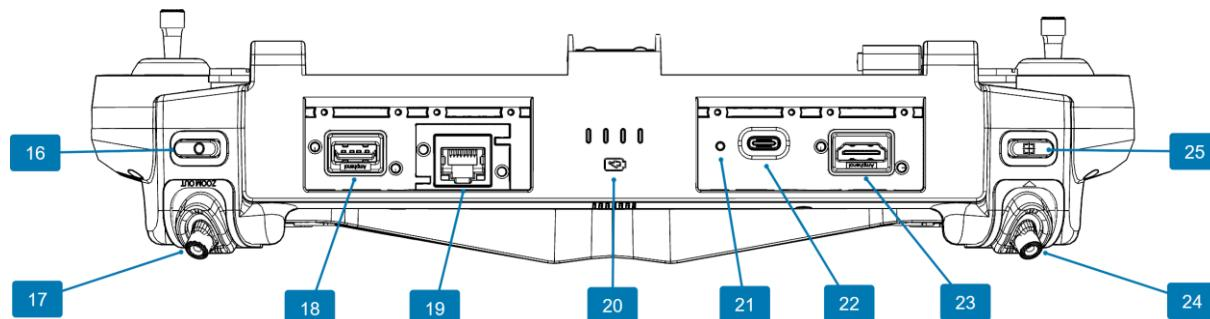

Figure 12: Skycontroller UKR Mission rear view, plastic covers removed
NOTE: Nos. 18, 19, 21, 22, and 23 (Figure 12) are underneath the 4 plastic covers on Skycontroller UKR. The plastic covers are not shown in the image above for clarity covers on Skycontroller UKR Mission.
- USB-A port (*No. 18 in Figure 12*) – used for drone/controller pairing, drone update
- Ethernet port (*No. 19 in Figure 12* – used for remote antenna connection, webserver access
- USB-C charging port (*No. 22 in Figure 12*) – used for charging
- HDMI port (*No. 23 in Figure 12*) – used for video output